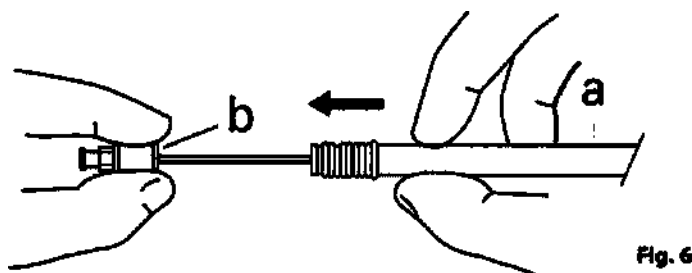

Fig. 6
4. Hold the hub end stationary. The stent will be deployed as you pull the handle (a) toward the hub (b). (Fig. 6) The radiopaque marker on the delivery system (h) indicates the progress of the deployment.